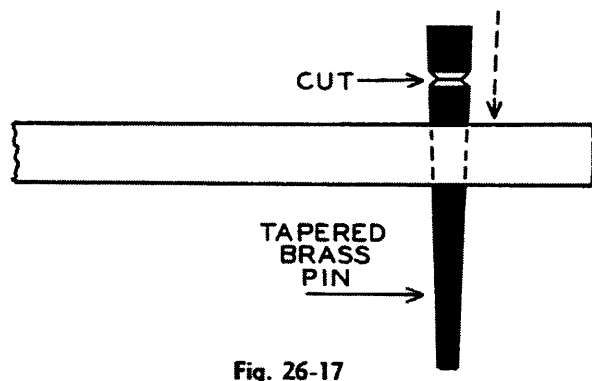

Fig. 26-17
2. Select a brass stud pin that will enter hole as in figure 26-17. If student desires to make a tapered brass pin, refer to Sec. 386 Lesson No. 19, figure 19-13.